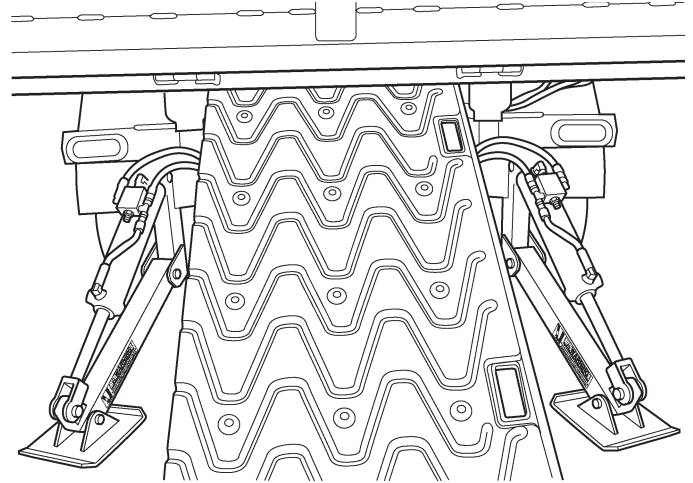

Figure 27. Mat Storage.
1. Locate the statement, “The weight of cargo should never exceed XXX kg or XXX lbs.,” on your vehicle’s placard. See Figure 27.